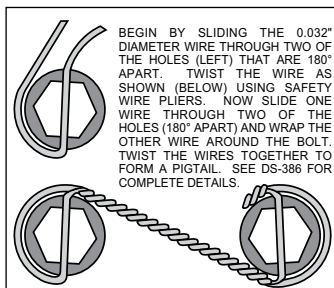

Figure 3. Safety Wire Diagram
- Orient the rotor (7) and the hat (8) as shown in Figure 1 and Photo 2. Attach rotor to hat using bolts (10) and washers (9). Apply red *Loctite*® 271 to the bolt threads and torque to 155 in-lb using a criss-cross pattern. For an added measure of security, the bolts may be safety wired using standard 0.032 inch diameter stainless steel safety wire as shown in Figure 3. Please refer to Wilwood's data sheet DS-386 (available at www.wilwood.com/Pdf/DataSheets/ds386.pdf) for complete safety wire installation instructions.